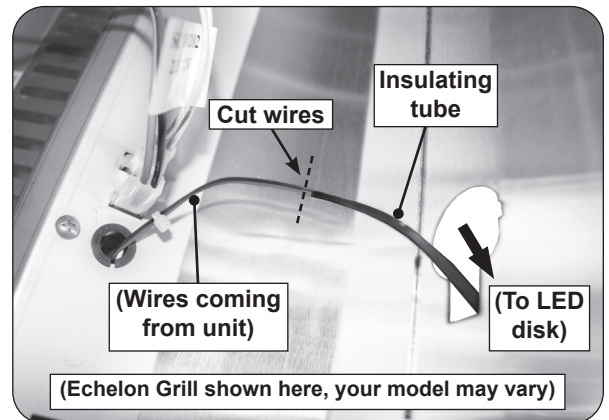

Fig. 1-2 Cut LED disk wires (coming from unit)
5. From inside the control panel, locate the wires that lead to the LED disk you wish to replace. Cut the wires at the end of the insulating tube as shown in Fig. 1-2.